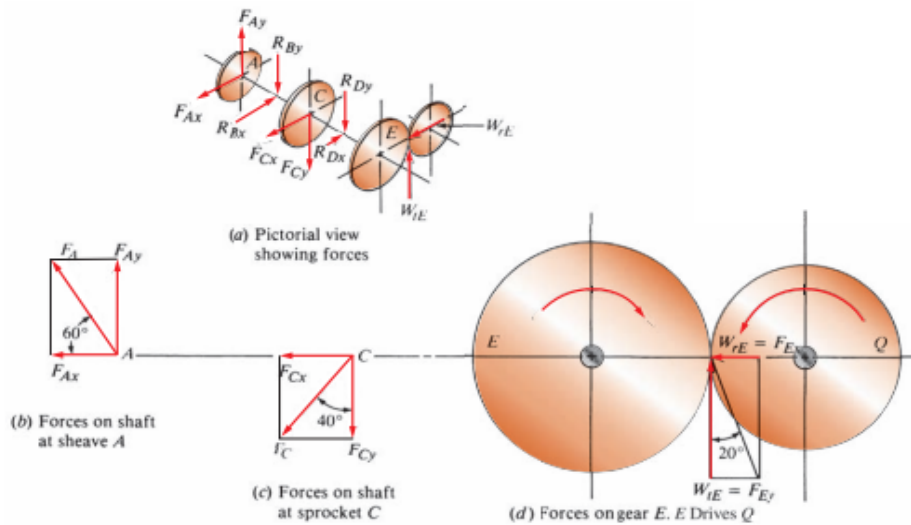

FIGURE 12-15 Forces resolved into x- and y-components
**Forces:** We will compute the forces at each element separately and show the component forces that act in the vertical and horizontal planes, as in Design Example 12-1. Figure 12-15 shows the directions of the applied forces and their components for each element.
The bending force acts upward and to the left at an angle of  $60^\circ$  from the horizontal. As shown in Figure 12-15, the components of the bending force are